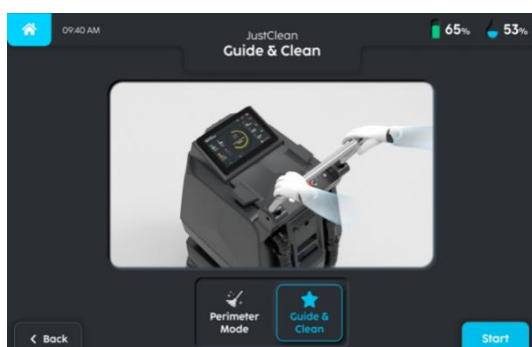

FIGURE 5-20
1. Select 'GUIDE & CLEAN' and click 'START' (Fig. 5-20).